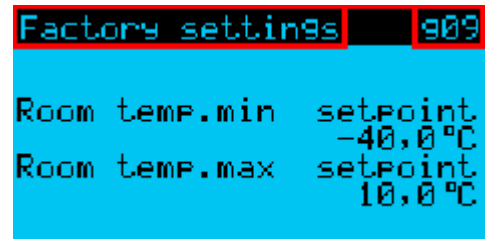

Fig. 5.5
1	Menu branch accessed by the user, where the address of the screen (relating to the menu map) may be displayed in the top right corner (see Fig. 5.5)
**Note:** Fig. 5.5 shows an example of the reference to the Blast Chiller screen map: "ba01" in fact indicates that inside the menu, after having chosen branch "b" and sub-branch "a", the user has accessed the screen for configuring the serial port.